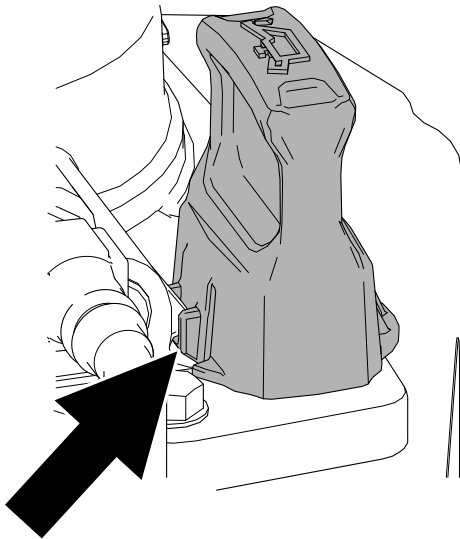

Figure 45
5. Fully install the dipstick and ensure that it latches (Figure 45).
10. Fully install the dipstick and ensure that it latches (Figure 45).